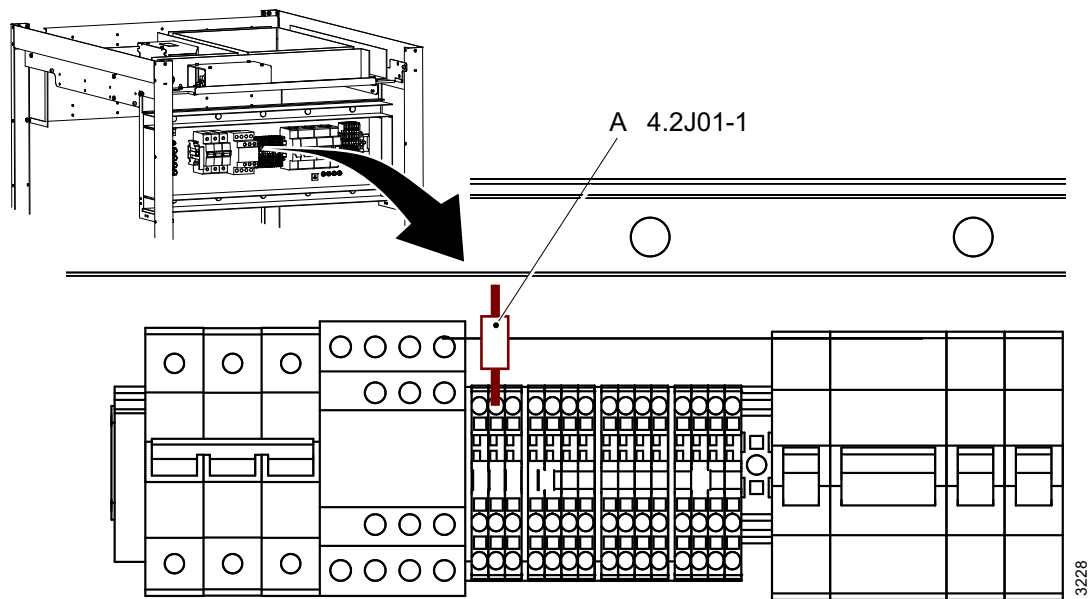

Fig. 4-80 Connect wire A
1. Make sure the wire (A) is connected according to Fig. 4-80.